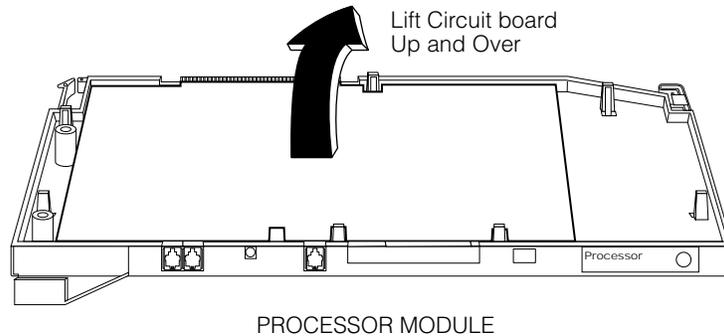

Figure 9–6. Removing the Processor Module Circuit Board
- 1 Remove the control unit housing. See Figure 9–1.**
- 2 Power down the system as described earlier in this chapter. See Figure 9–2.**
- 3 Remove the processor module from the carrier. See Figure 9–3.**
- 5 Unclip and remove the left side panel. See Figure 9–5.**
- 6** Holding the processor circuit board at each end, lift it up and turn it over and away from you. See Figure 9–6.
- 8** Carefully support the dip switch assembly with the index finger, while moving the switch to the closed position. See Figure 9–7.
- 11** Replace the processor module into the carrier. See Figure 9–4.